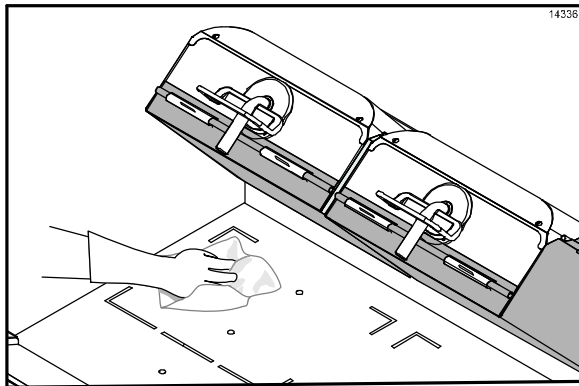

Figure 15
1. Clean the grill with a sanitizer-soaked grill cloth to remove any debris on the grill. (See Figure 15.)